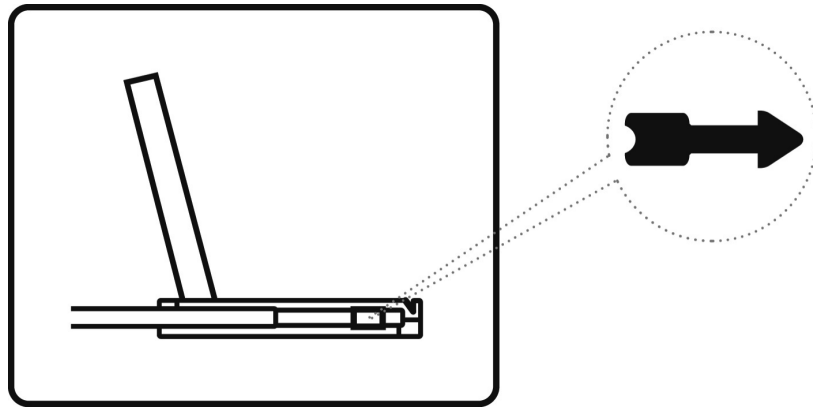

Figure 5-3. Locate the release buttons on each side.
- 1 Fold down the screen and locate the black arrow release button on each side of the drawer slider. See Figure 5-3.